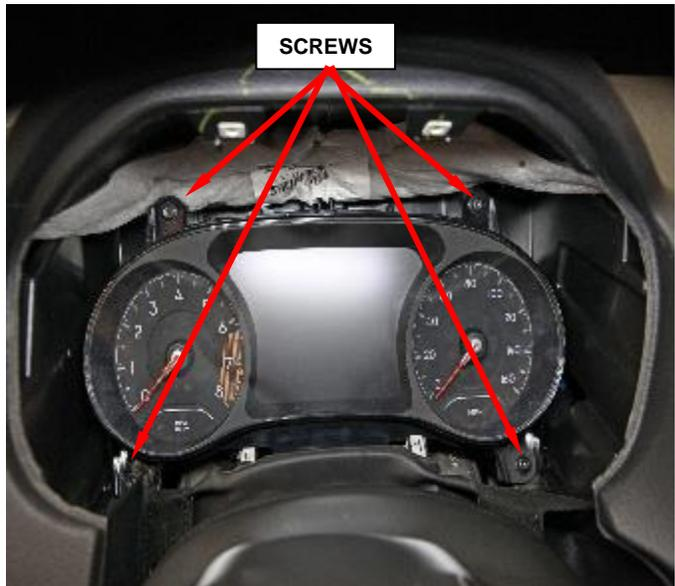

Figure 8 – Instrument Panel Cluster
17. Remove the four screws that secure the instrument panel cluster to the instrument panel (Figure 8).